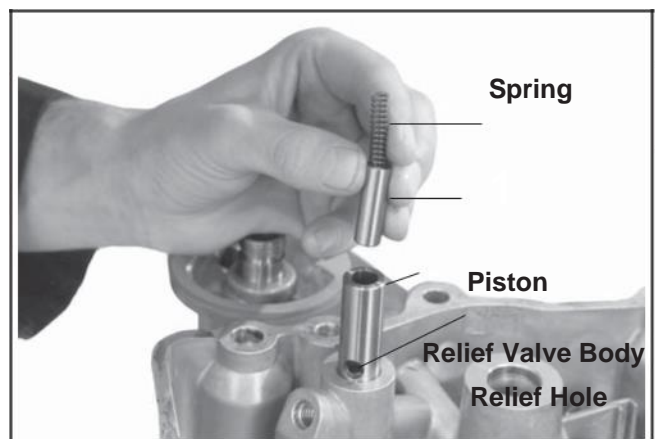

Figure 11-15. Installing Oil Pressure Relief Valve Body, Plunger, and Spring.
2. Insert the piston and spring into the body. See Figure 11-15.